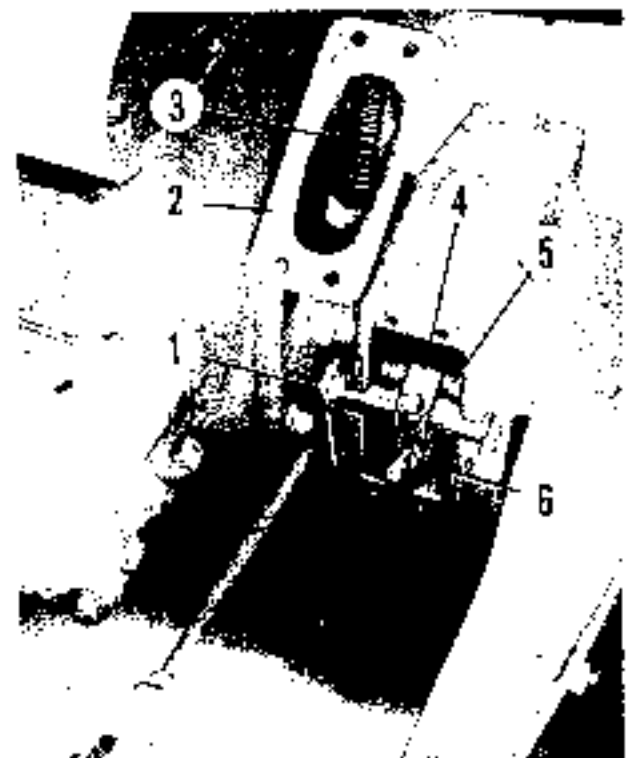

Fig. MH29—Adjusting Pony brakes. Adjust pedal rod to equalize height of pedals. Turn adjusting nut (6) on brake band to adjust lining clearance.
61. **ADJUST.** Two adjustments can be made on brakes. As shown in Fig. MH29, the rod between brake cam shaft and pedal shaft is adjustable device. These rods are adjusted only to equalize the pedals, if then released position. Brake rods are adjusted by means of the adjusting nuts (6) which are tensioned when front brake cover plate (7) is off as in the illustration. To adjust, loosen the lock nut and turn adjusting nut out. With rear wheel raised, the drum should turn freely within brake band when brakes are released. Adjust bands on both sides of tractor and test by applying pressure to both pedals at once with tractor in operation and rear wheels off ground. Equalize brakes by loosening adjusting nut (6) on the tighter side.
62. **IT & IT BANDS.** To remove brake band, remove both front and rear brake cover plates and loosen lock nut and adjusting nut (6) from lower